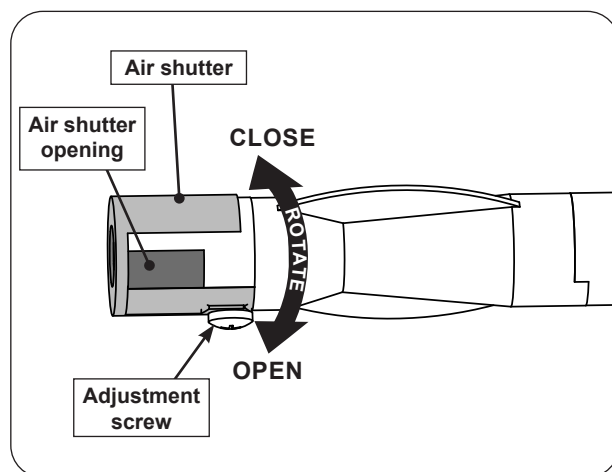

Fig. 36-2 Side burner air shutter adjustment detail
2. Loosen the adjustment screw with a screwdriver, then carefully rotate the shutter to open or close it. See Fig. 36-2 for details.